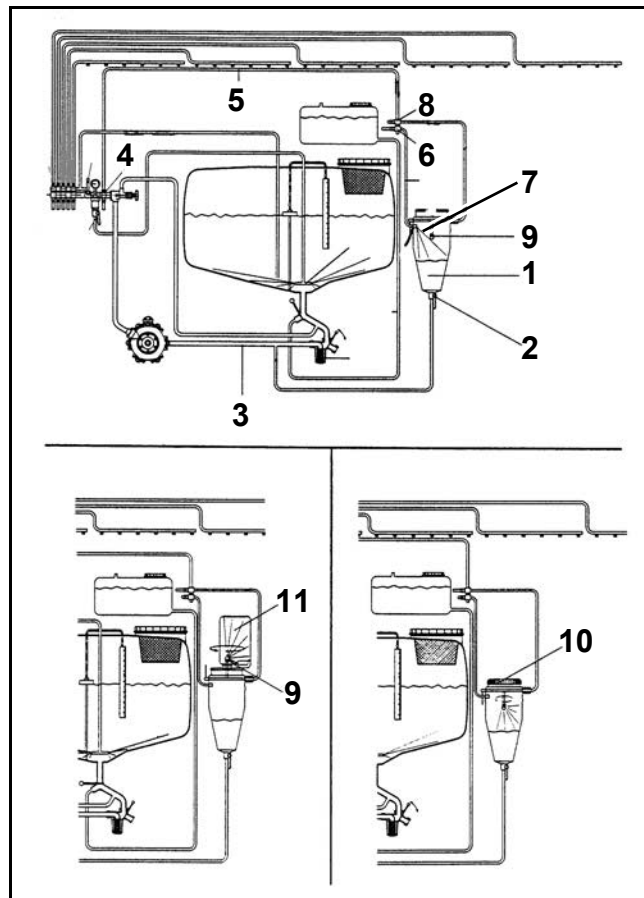

Fig. 161
- Open single taps (Fig. 161/ 2 and Fig. 161/ 4) on induction bowl bottom and on the control unit.
- Open single tap (Fig. 161/ 6) for the flushing nozzle (Fig. 161/ 7).
- Shut off single tap (Fig. 161/ 6).
- Suck all liquid off the induction bowl. Once more rinse the induction bowl with the canister flushing nozzle (Fig. 161/ 9).
**•Close the induction bowl opening with its lid before rinsing the induction bowl (Fig. 161/ 10).**
- Shut off single taps (Fig. 161/ 2 und Fig. 161/ 4) after sucking off the liquid in the induction bowl.
- Slide the spray agent canister (Fig. 161/ 11) over the canister flushing nozzle and open the single taps (Fig. 161/ 4 and Fig. 161/ 8). Rinse canister for at least 30 seconds. Suck off collected flushing liquid.